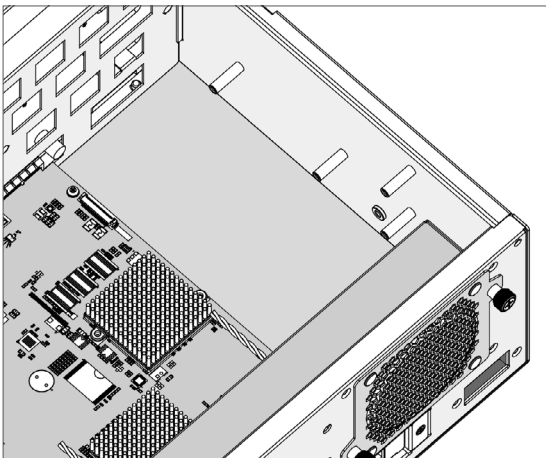

Figure B-9, Removing the Cover
1. Loosen the screws and remove the cover from the ARC-8050T3-24R enclosure, as shown in Figure B-9.